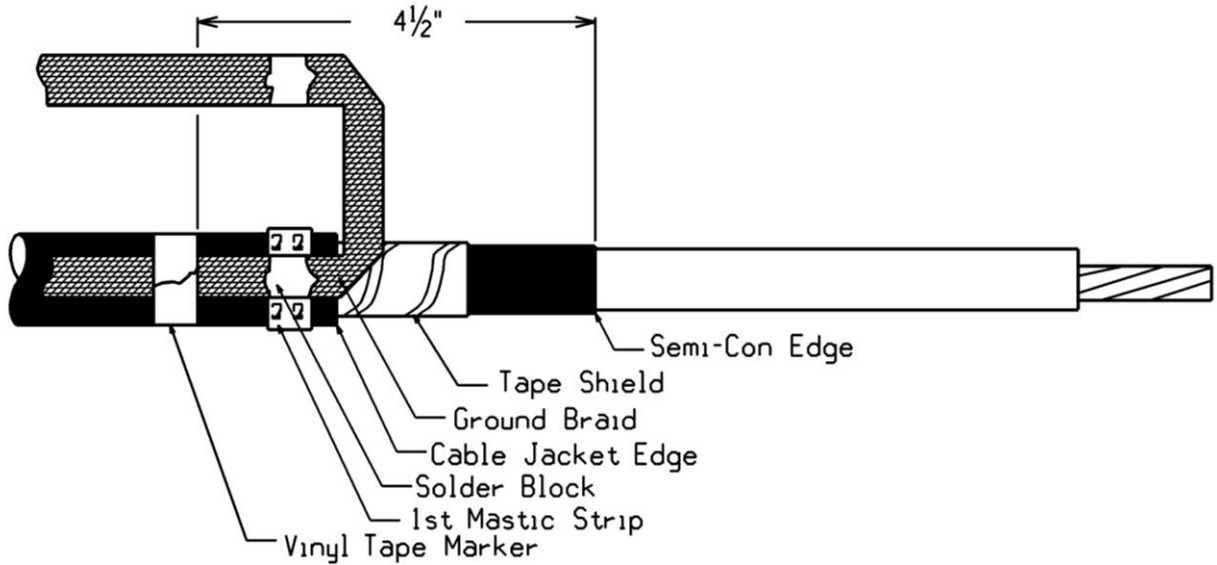

Figure 18
- Position pre-formed "U" shaped ground braid over tape shield directly adjacent to cable jacket cut edge. The long tails should extend over the cable jacket with the solder block of one tail positioned over the mastic. Secure this tail to the cable jacket with a vinyl tape marker located 4½ inch from the edge of the cable semi-con. See Figure 18.